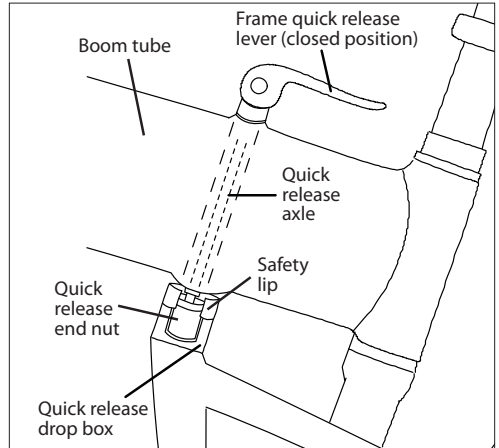

Fig. 10: Parts of the frame quick release.
4. Make sure the Quick Release End Nut is completely inside the Quick Release Drop Box (Fig. 10).
5. Secure the frame quick release lever by closing the quick release with the lever pointing towards the saddle. (Figs. 10 & 13)
1. Make sure your Montague bicycle is in the open position with the frame quick release properly seated in the quick release drop box (Fig. 10).